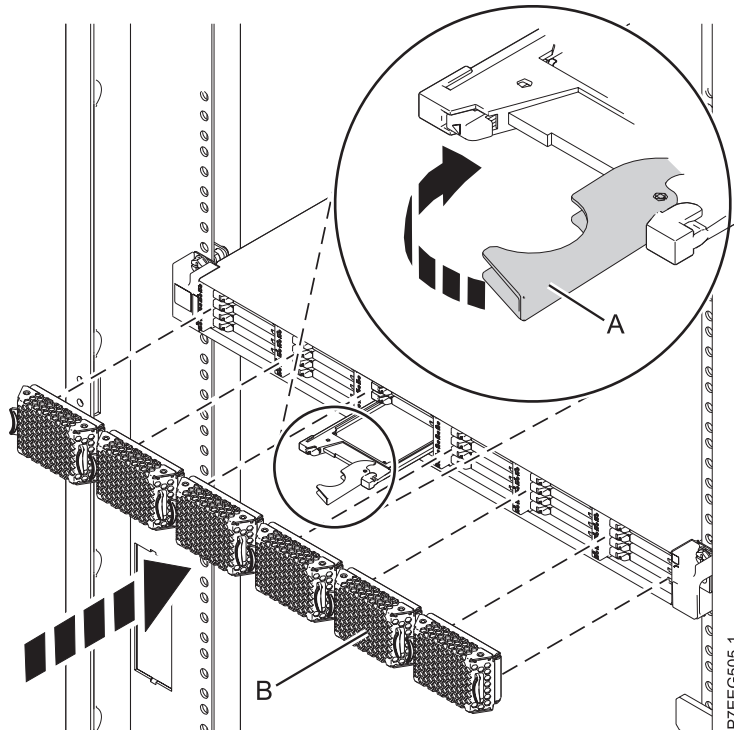

Figure 8. Installing a solid-state drive in the ED/R1 PCIe storage enclosure
1. With the handle in the unlocked position, align the solid-state drive with the guide rails in the enclosure. See Figure 8 on page 15.